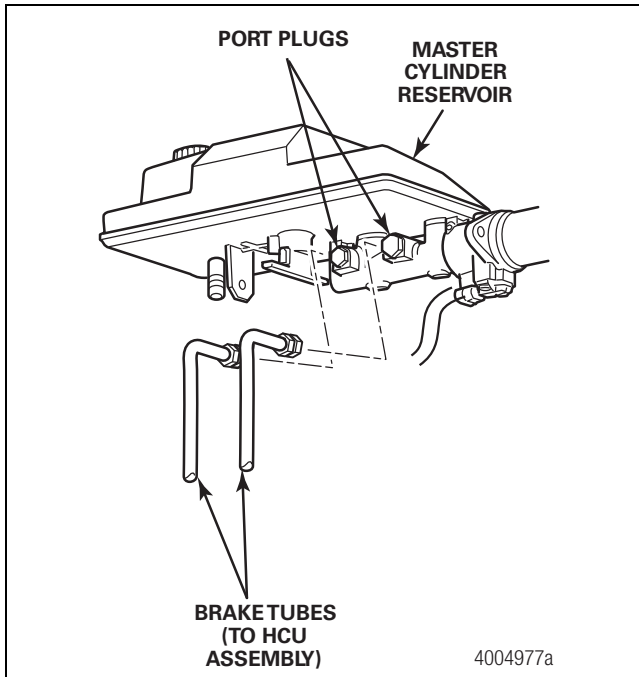

Figure 5
12. Disconnect the two brake tubes from the master cylinder. Plug the brake tubes and the master cylinder ports to protect them from contamination. Figure 5.